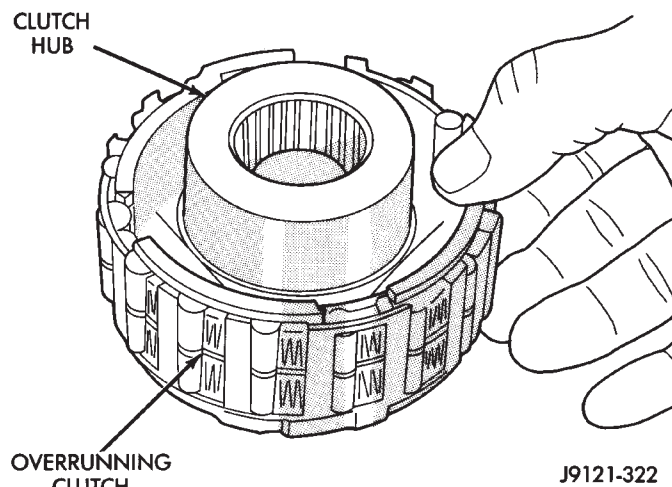

Fig. 215 Assembling Overrunning Clutch And Hub
(8) Install overrunning clutch on hub (Fig. 215). **Note that clutch only fits one way. Shoulder on clutch should seat in small recess at edge of hub.**
(9) Install thrust bearing on overrunning clutch hub. Use generous amount of petroleum jelly to hold